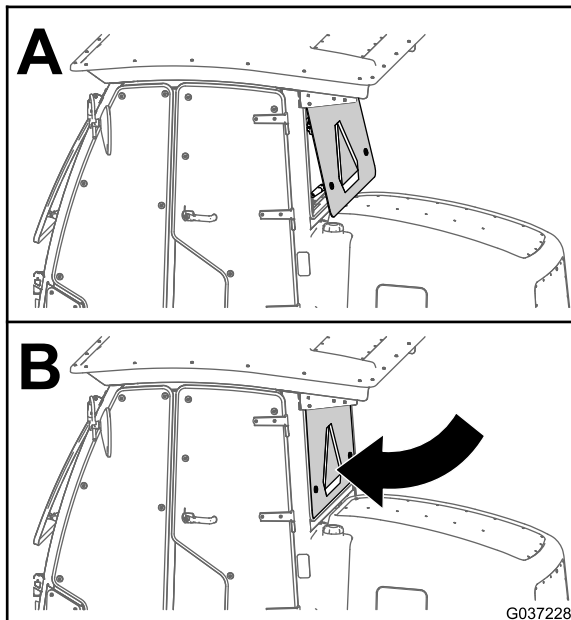

Figure 42
1. Close the rear window of the cab (Figure 42).